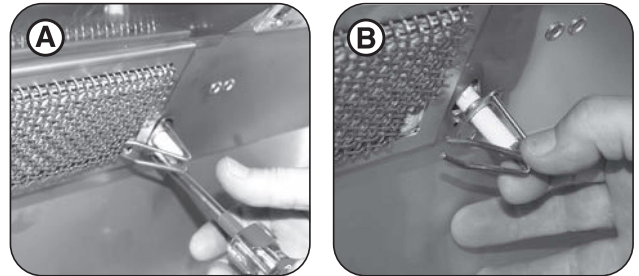

Fig. 36-2 Remove electrode
1. Remove the backburner electrode mounting screw (1/4" hex) (see Fig. 36-2, A) and loosen the electrode. Carefully pull the electrode assembly slightly from the grill wall to give enough clearance for the backburner to be removed (see Fig. 36-2, B).